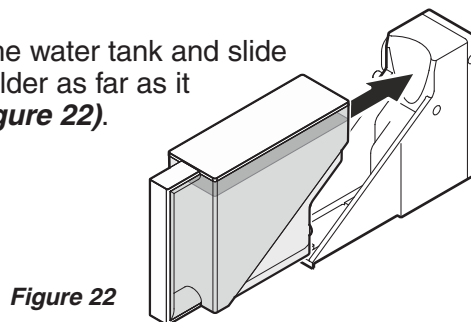

Figure 22
3. Reinsert the water tank and slide into the holder as far as it will go (**Figure 22**).